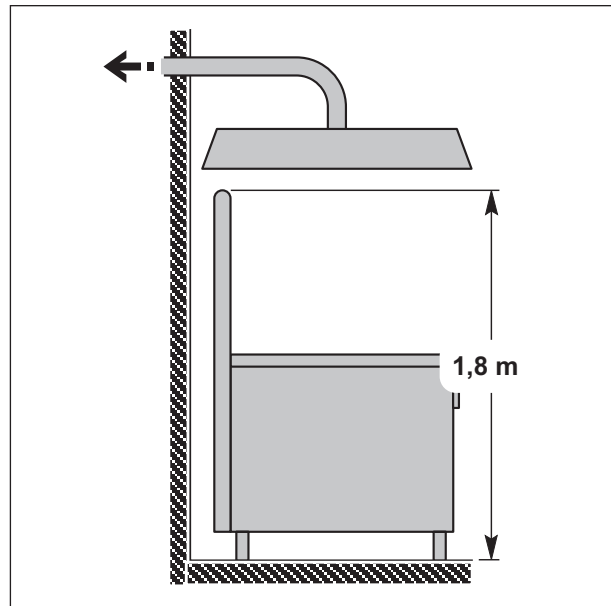

Fig. 23 Fume extraction through extraction hood
- The final part of the appliance extraction duct must be about **1.8 m** from the appliance support surface; the outlet of the combustion product extraction duct must be placed within the basic perimeter of the hood (see *Fig. 23 Fume extraction through extraction hood*).